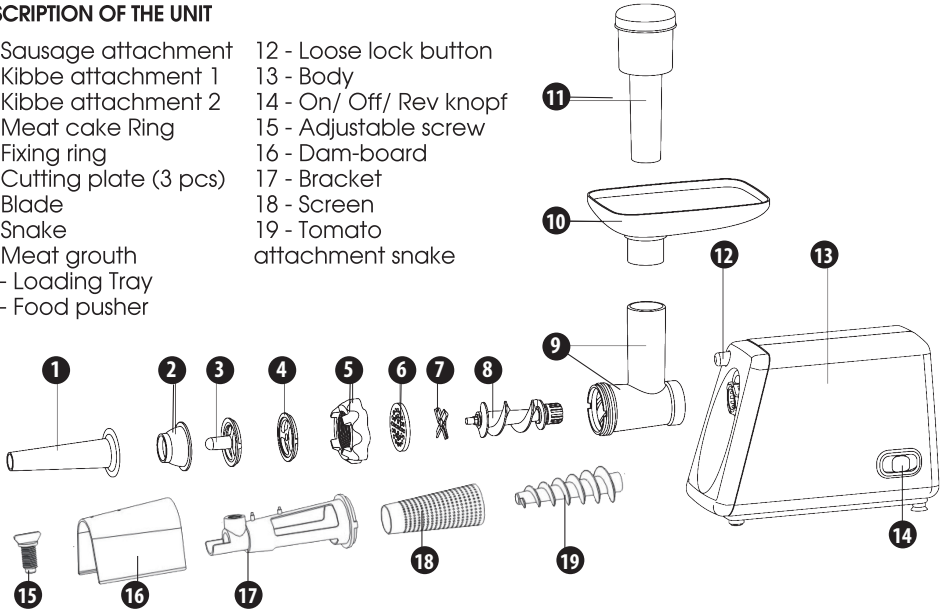

Fig. 1
- Press the fasten button hold the head and insert it into the inlet (when inserting please pay attention the head must be slanted as per arrow indicated on the top, see fig. 1), then move the head anticlockwise so that the head being fastened tightly. (fig.1, Page.10)